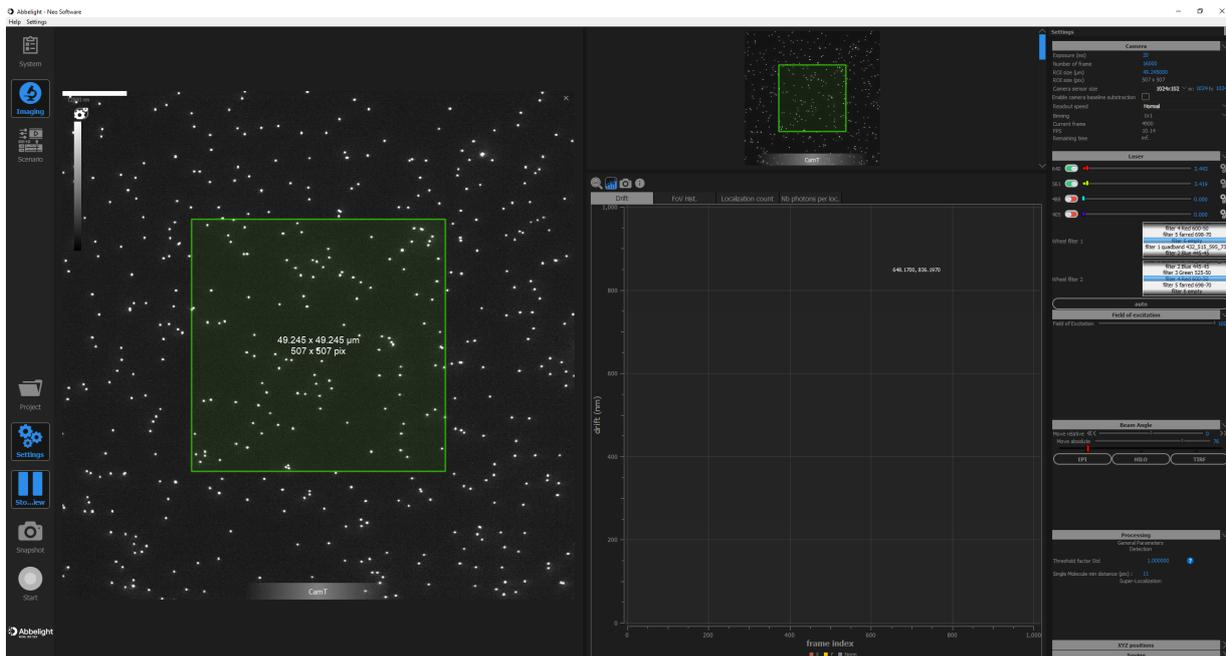

Figure 13: The preview window, and creating a region of interest.
- Start Live view by clicking on “Start Preview,” indicated by the play icon on the left side of the GUI. Create the desired region of interest (ROI) size by clicking on the left mouse button and dragging across the field of view (Fig. 13).